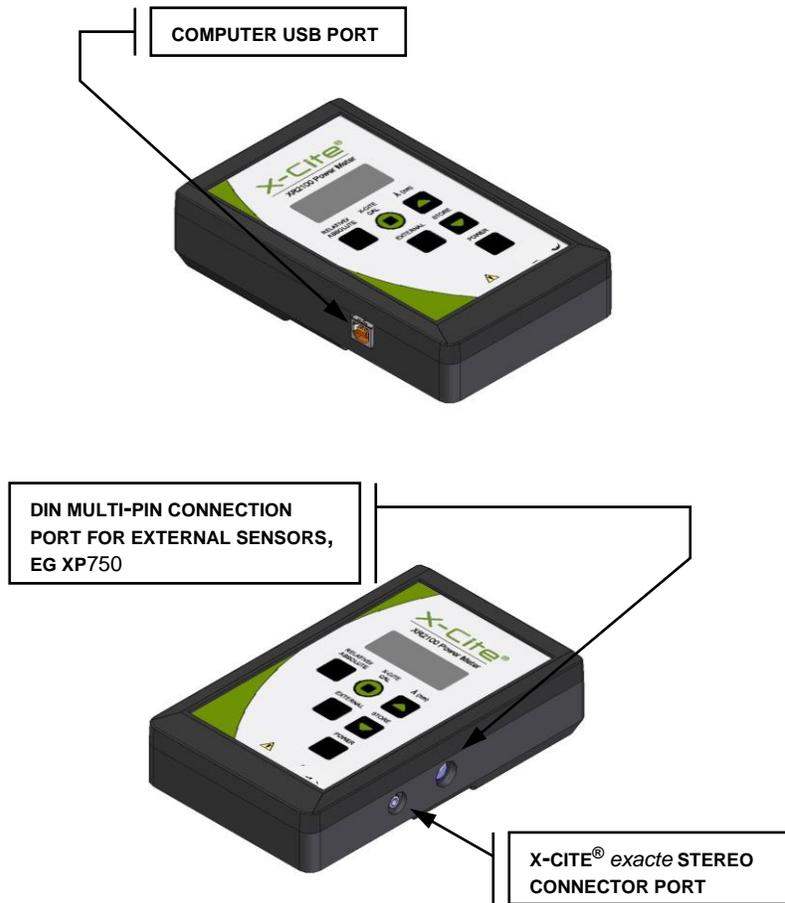

Figure 4 XR2100 Optical Power Meter Connections
- 4.2.1 Plug the XP750 multi-pin connector into the XR2100. Refer to Figure 4 for connecting cable locations.
- 4.3.1 Plug the XP750 multi-pin connector into the XR2100. Refer to Figure 4 for connecting cable locations.
8.1.2 **Connect a USB cable to the XR2100 and the Computer USB port. Refer to Figure 4** for connecting cable locations.
8.1.3 Connect XP750 to the XR2100. Refer to Figure 4 for connecting cable locations.
8.1.4 If using or calibrating the X-Cite® *exacte*, connect the XR2100 to the X-Cite® *exacte* unit using the supplied Stereo Connection Cable (refer to Figure 4). Connect the X-Cite® *exacte* to the computer using the USB connection (USB cable is supplied with the X-Cite® *exacte* unit).